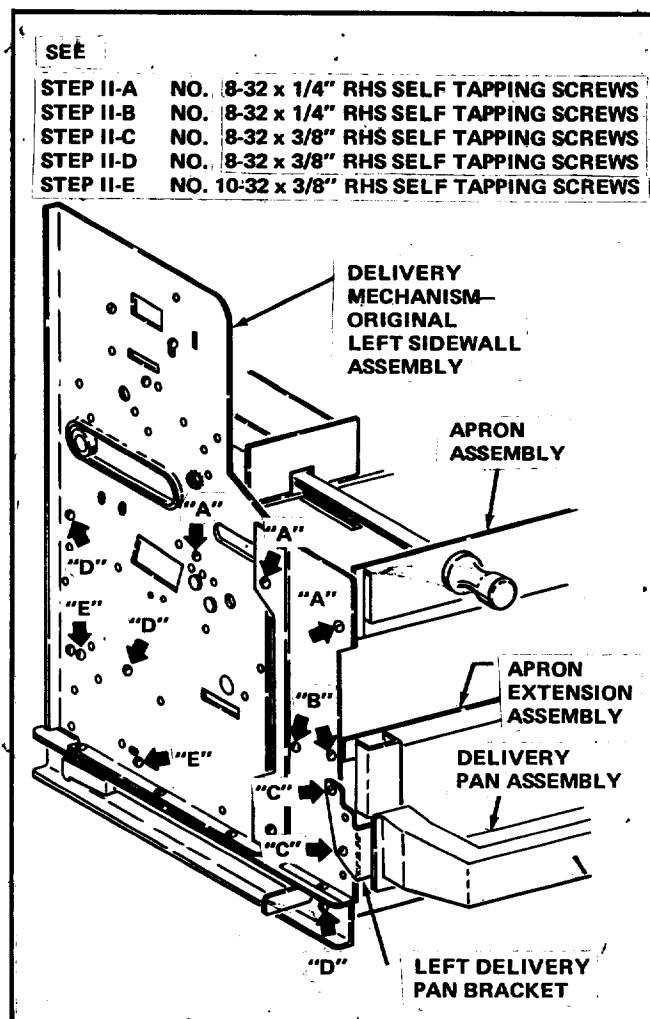

FIGURE II-1
- A. Remove the three No.8-32 x 1/4" RHS Self-tapping Screws which attach the Left Sidewall Assembly to the Apron Assembly. See Figure II-1.